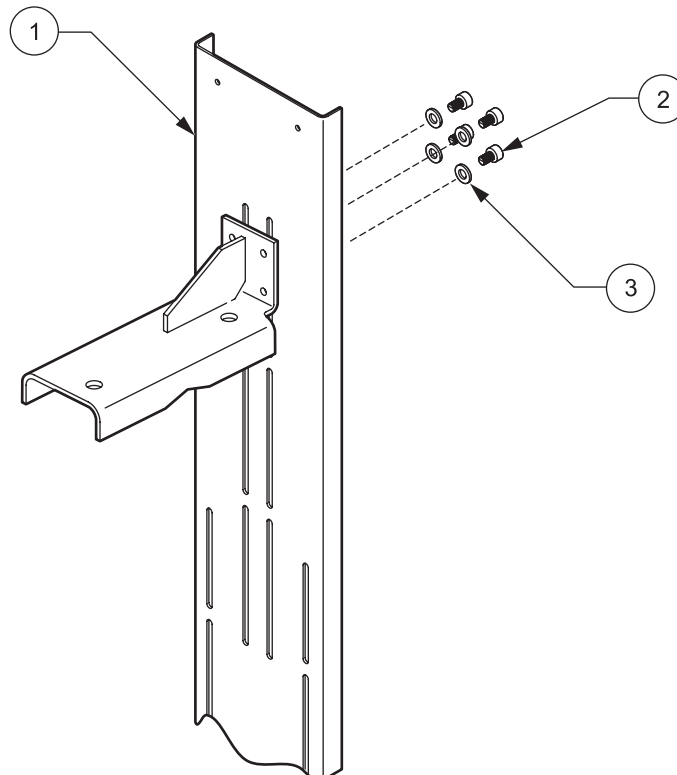

Figure 7 Installing the angle bracket on the mounting rail
2. Loosely mount the angle bracket to the mounting rail with four M5 hex socket head screws and spring washers (see Figure 7 on page 7).